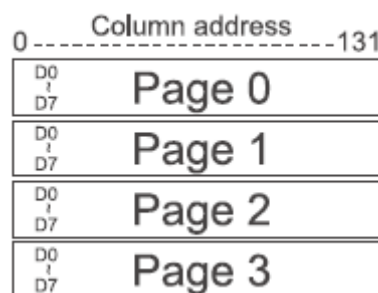

Figure 20 - EA DOGM132 display memory mapping
- The display is organized in 4 pages with 132 bytes (pixels) each (see **Figure 20**).